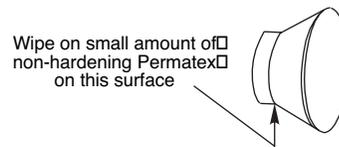

Figure 13
- B. Place a small amount of No. 2 non-hardening Permatex on surface of insert as shown. Smooth out with finger. See Figure 13.